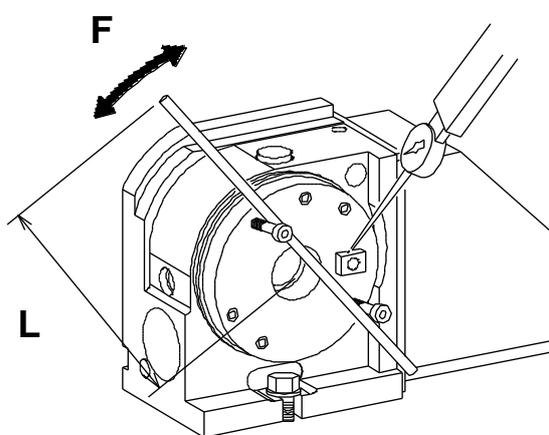

Fig.5
10-1. Backlash measuring method of worm gear (See Fig.5)
- 2) Turn the table slowly by using the tap on the surface of the table as shown in fig.5. And read the value of the dial gauge when tooth of the worm wheel makes contact with a worm shaft. At this time, the rotating torque added to the table is as follows. Then, rotate the table on the same conditions to the opposite direction. The difference of these measurements is the amount of backlash.